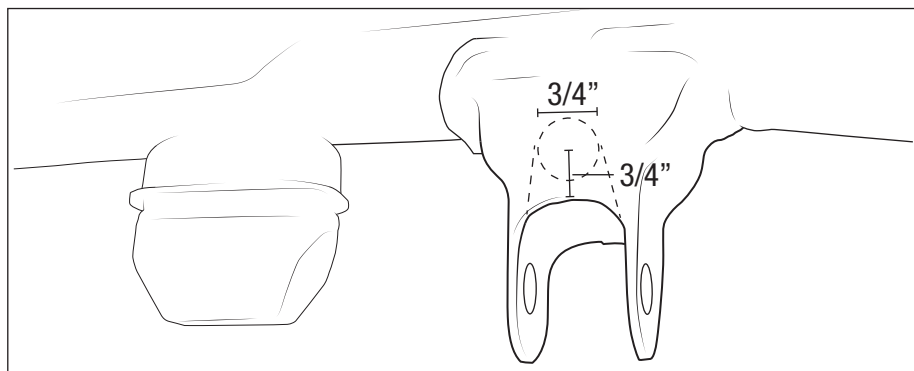

Figure 20
- a. **POWER WAGON ONLY** – Modify the track bar bracket as shown (fig. 20). Measure 3/4" up to mark the center, then drill a 3/4" hole. Remove remaining material.